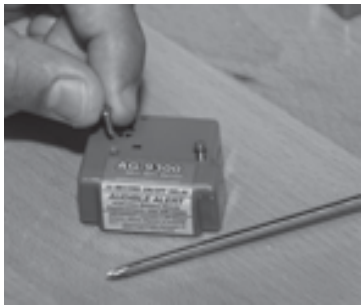

Fig 12
1. Remove the #2 screw from the top of the AG-9300-LG control box (fig 12).